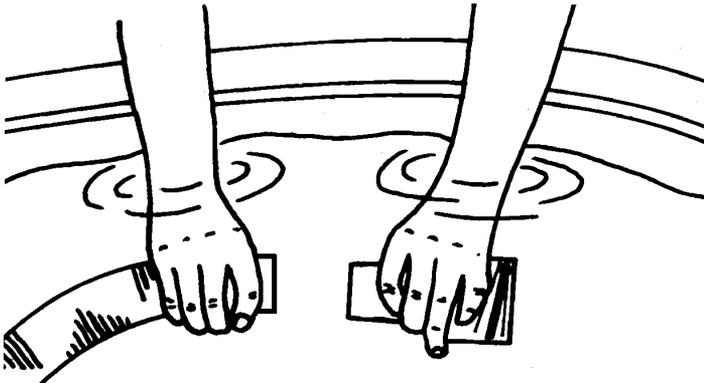

Figure 1
- Attach the Pool Pulse® to the hose and keep it under water as shown in Figure 1.